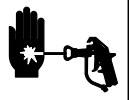

**Fig. 31**
**NOTE:** See Fig. 31 for this procedure.
2. Use a pull–twist motion to remove the transducer (29) from the pump manifold (101).
6. Align the holes in the transducer as shown by the arrows in Fig. 31.